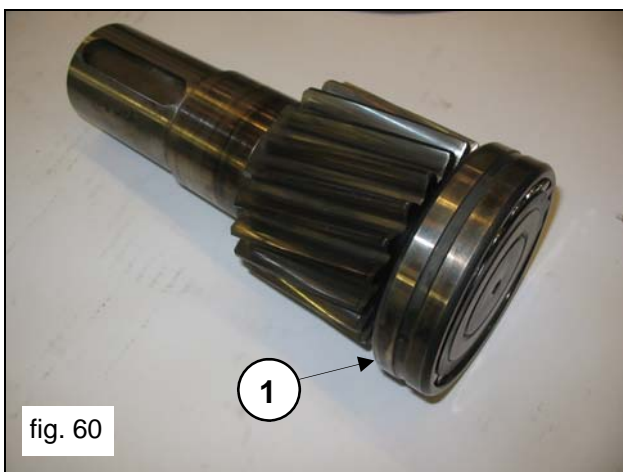
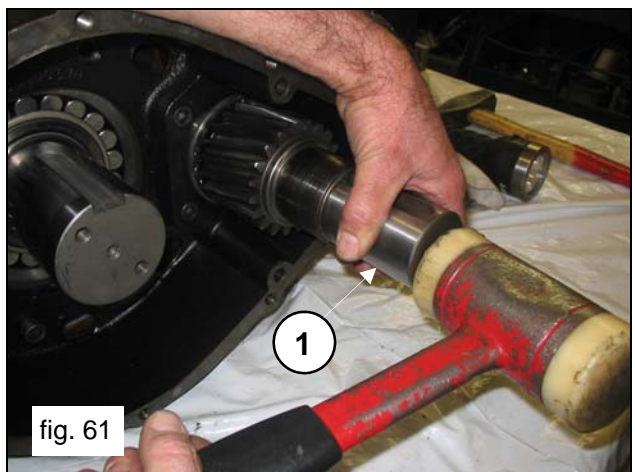

fig. 60
fig. 61
Preassemble the bearing on the pinion (pos. ①, fig.60) and fully insert the pinion in the seat on the reducer case (pos. ①, fig.61) by using a hammer.